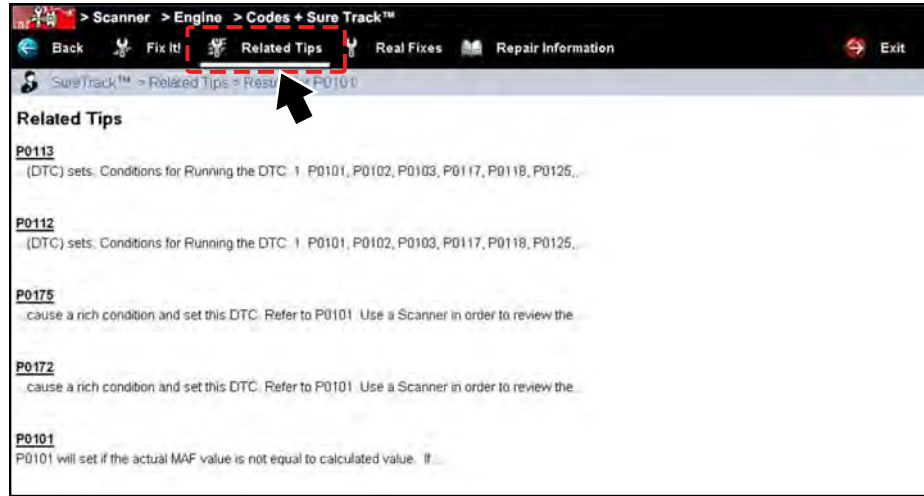

Figure 14-5 Typical - Related Tips Screen
**Related Tips**—opens a list of tips that may include information that is related to the current DTC (Figure 14-5).